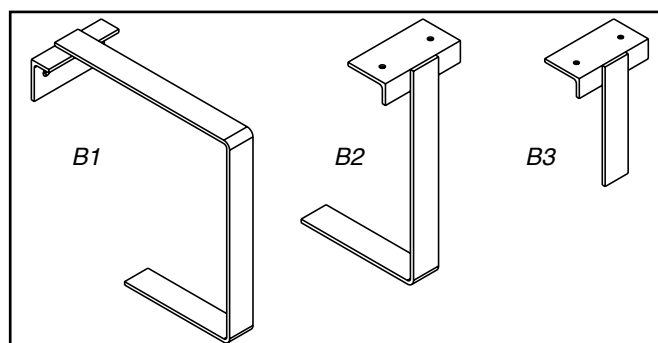

Fig. 12 : Brackets
- Box types 1 up to and including 4 with a width of over 3000 mm, the use of supporting brackets is being advised (see figure 12).
- **Supporting brackets:** see figure 12 and table 7